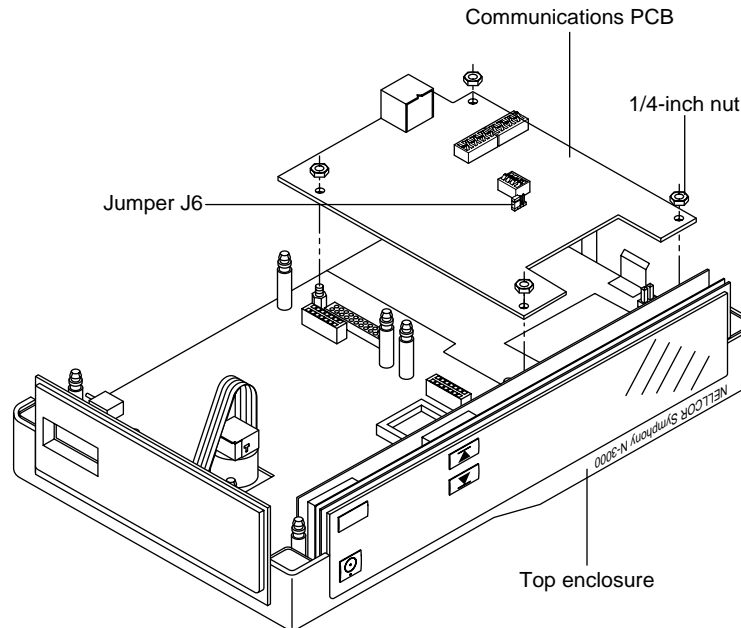

Figure 6-8: Communications PCB Removal
2. Using a 1/4 inch socket or needle-nose pliers, remove the Communications PCB by removing the four 1/4-inch nuts that secure it to the UIF PCB (Figure 6-8). After removing the nuts, lift straight up.